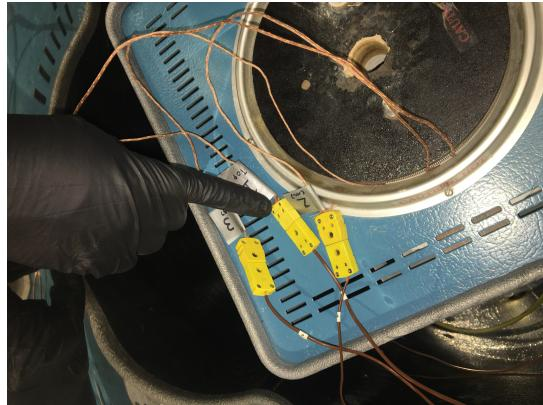

Figure 2: Thermocouples connections
4. Ensure the furnace thermocouples are connected to their corresponding connectors inside the vessel and ensure that the wires are tucked down between the side of the furnace and the wall of the vessel and are out of the way (see Figure 2)